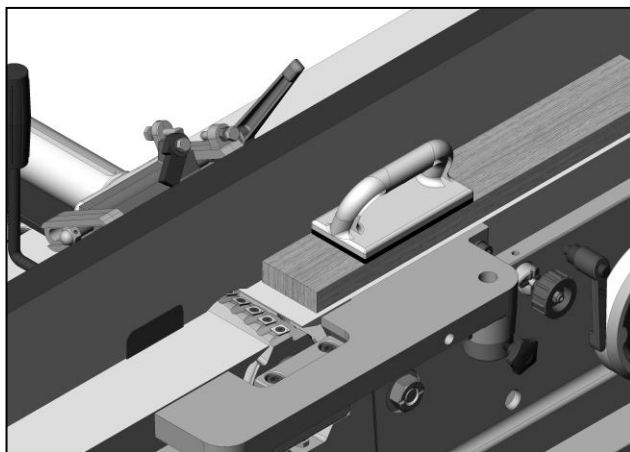

Fig. 12
1. Adjust the fence so that the distance between the edge of the knife and the fence is equal to the width of the desired rabbet (Fig 12).